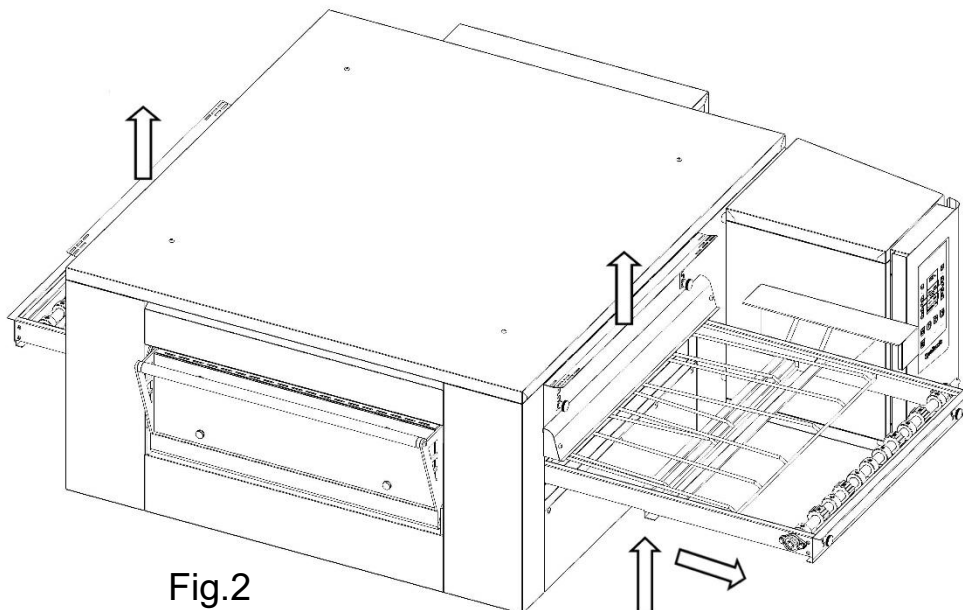

Fig.2
6. Raise the shutters at the entrance and exit to the point of maximum aperture (see Fig.2 paragraph 9.3.1).
7. Lift the wire mesh conveyor belt from both ends and remove it in the direction of the controls (see Fig.2 paragraph 9.3.1).
5.Raise the shutters at the entrance and exit to the point of maximum aperture (Fig.2).
6.Lift the wire mesh conveyor belt from both ends and remove it in the direction of the controls (Fig.2).